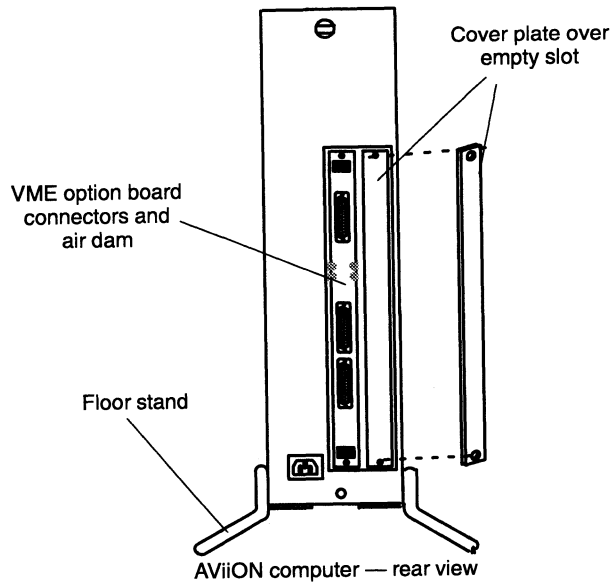

Figure 3-4 Air Dams on an AViiON VME Card Cage
Air dams on the front of the VME controller boards and cover plates that fill in the empty slots direct the air flow over the boards and contain electromagnetic discharge interference (EMI). *Never run the computer without an air dam or cover plate over every slot.* Some of the computers also require a filler board for each empty slot in the card cage. Always make sure that you have at least 2 inches of clearance around the computer and between the computer's bottom skirt and the floor so that the blower can properly circulate cooling air. Figure 3-4 shows the rear of a typical 2-slot AViiON computer unit with an air dam, cover plate, and floor stand properly installed. Also see the section "Installing an EMI/Air Dam Upgrade Kit" that follows.
10. Install a replacement board as described in the next section, or install a cover plate over the cage opening by inserting and tightening the securing screws. Use Figure 3-4 if necessary for reference.